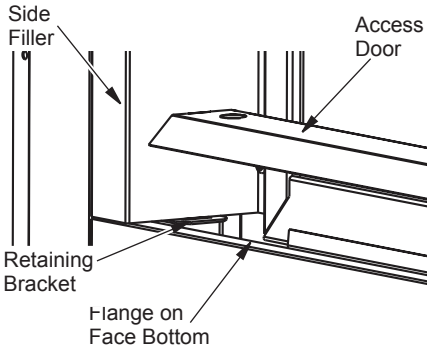

Figure 34 - Access Door for See-Thru Applications
1. Place access door into rectangular opening in front of the glass door with the slanted side facing forward. The slanted surface will slide underneath the flange of the bottom face. Insert tabs on side of access door into slots on retaining brackets (See Figure 34, page 25).